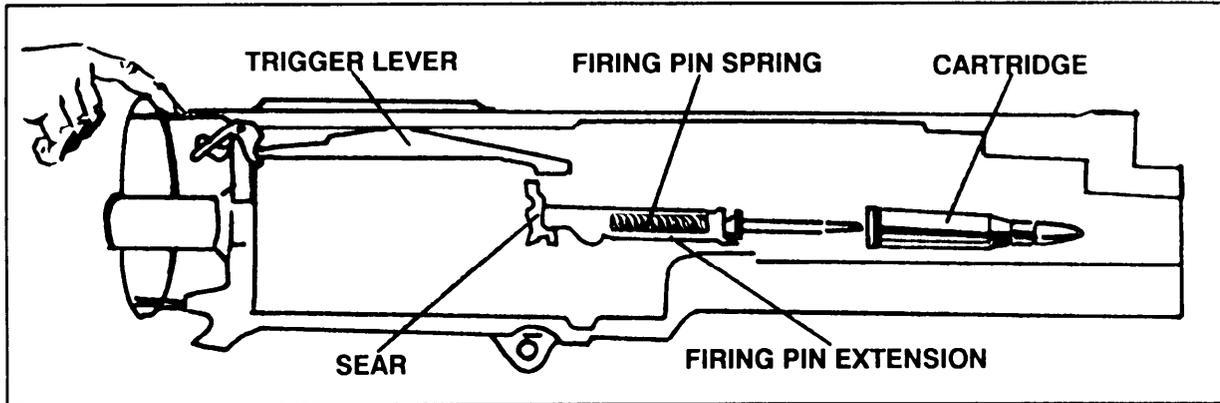

Figure 3-12. Firing – ready to fire.
(1) As the trigger impressed down, it pivots on the trigger pin, so that the trigger cam on the inside of the backplate engages and raises the rear end of the trigger lever. This in turn pivots on the trigger lever pin assembly, causing the front end of the trigger lever to press down on the top of the sear stud. The sear is forced down until the hooked notch of the firing pin extension is disengaged from the sear notch. The firing pin and firing pin extension are driven forward by the firing pin spring; the striker of the firing pin hits the primer of the cartridge, firing the round (Figures 3-12 and 3-13, page 3-8).